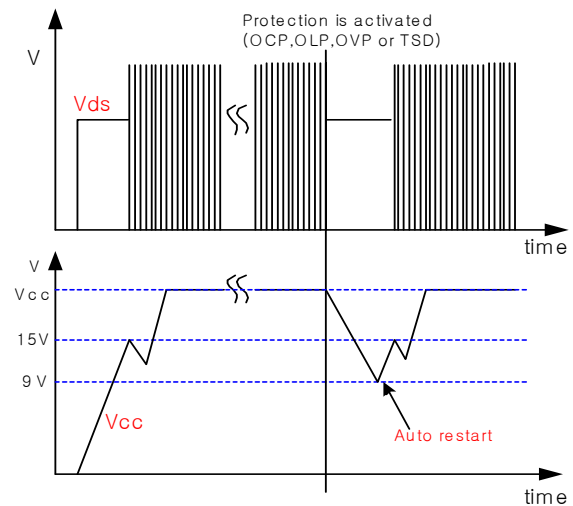

Figure 3. Auto restart operation after protection
3. Protection function : FS8S0765RCB has 4 self protective functions such as abnormal over current protection (AOCP), over load protection (OLP), over voltage protection (OVP) and thermal shutdown (TSD). Because these protection circuits are fully integrated into the IC without external components, the reliability can be improved without cost increase. In the event of these fault conditions, the FPS enters into auto-restart operation. Once the fault condition occurs, switching operation is terminated and MOSFET remains off, which forces V_{cc} to be reduced. When V_{cc} reaches 9V, the protection is reset and the supply current reduces to 80 uA. Then, V_{cc} begin to increase with the current provided through the start-up resistor. When V_{cc} reaches 15V, the FPS resumes its normal operation if the fault condition is removed. In this manner, the auto-restart alternately enables and disables the switching of the power MOSFET until the fault condition is eliminated as illustrated in figure 3.